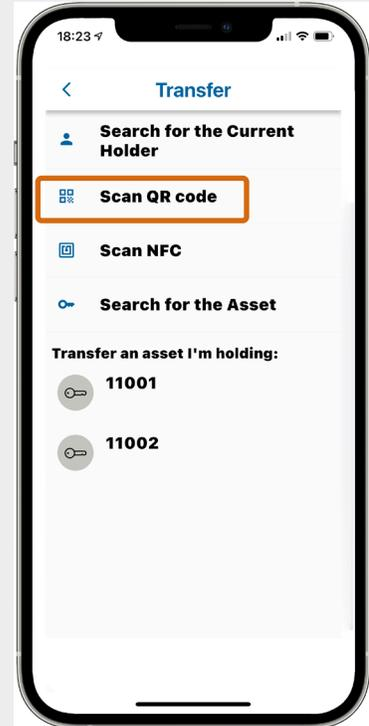

Fig. 124 – Transfer screen with Scan QR code indicated
3. On the **Transfer** screen, select **Scan QR Code**, as shown in Fig. 124.